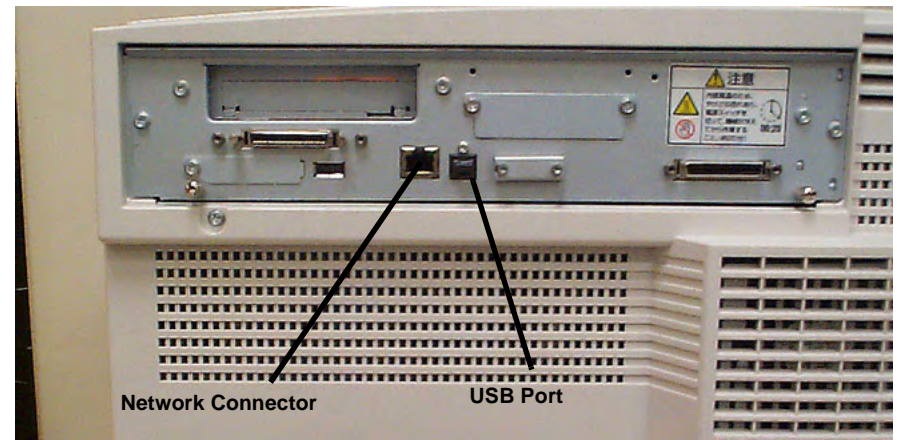
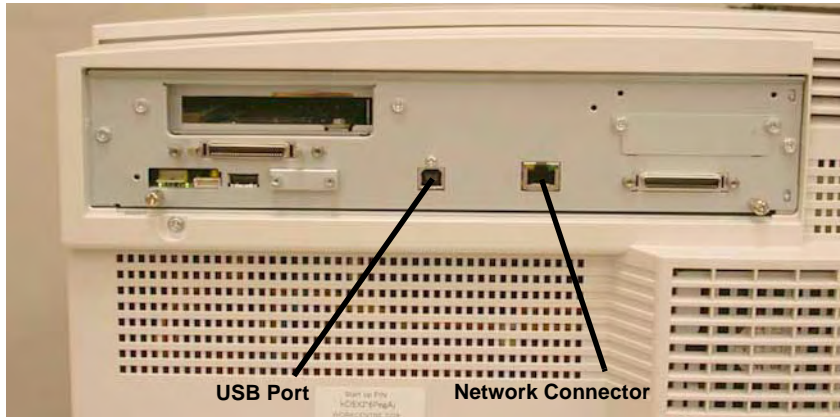

Figure 1 USB Connection for PWS 72xx
Figure 2 USB Connection for 73xx
5. Connect the PWS to the USB 1.1 port on the rear panel (for 72xx machines see Figure 1), (for 73xx machines see Figure 2).